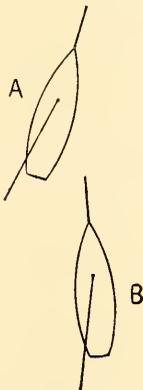

FIG. 70.
Question: (6) A. and B. are both close-hauled on starboard tack, and B. is astern, but a little to windward of A. But B. is sailing more water than A., and A. is lying a better wind than B. B. runs into A., striking the latter on the counter with her bowsprit (Fig. 70). Which is in the right?